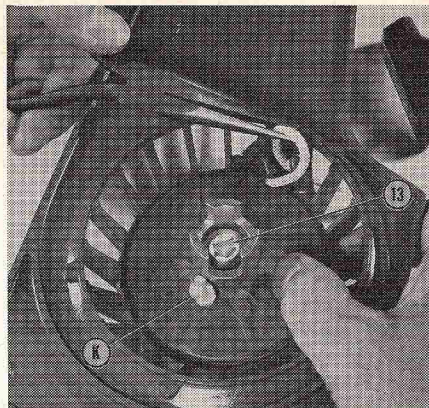

Fig. HL121—Pulling loop of starter rope past notch in rope pulley. Rope is retained by knot (K). Rope pulley retaining screw is (13).
**REWIND STARTER.** For exploded view of starter, refer to Fig. HL120. To disassemble starter, refer to Fig. HL121 and proceed as follows: If starter spring remains under tension, pull the starter rope out about two turns of pulley, hold pulley from turning and pull loop of rope out past notch in pulley. Allow the starter spring to completely unwind, then remove screw (13) and disassemble unit. Be careful when removing spring; a rapidly uncoiling starter spring could cause serious injury.
If necessary to install new rope, insert end through pulley and tie knot as shown at (K—Fig. HL121). Heat end of rope to secure knot, then insert other end through rope guide in fan housing and secure in handle. Wind cord all the way onto pulley, then fit pulley and plastic sleeve onto starter post. Pull rope out far enough to be sure pulley engages spring, then allow spring to rewind. Install pulley retaining washer and screw and tighten screw to minimum torque of 50 inch-pounds. Pull cord out about two feet so that notch in pulley is at rope insert in housing and hold pulley from turning (Fig. HL121). Pull up a loop of rope between notch and fan housing, then holding loop, turn pulley and rope three turns clockwise (winding spring). Pull out the rope so that it runs straight